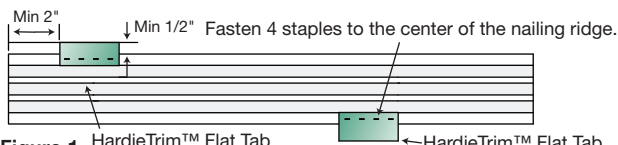

Figure 1
Step 1: Attach HardieTrim Flat Tabs to the back side of the trim using four(4) 18 ga. 1/2" L x 1/4" W narrow crown corrosion resistant staples, equally spaced in one row, positioned no closer than 1/2" from trim edges using a pneumatic staple gun. (Figure 1)